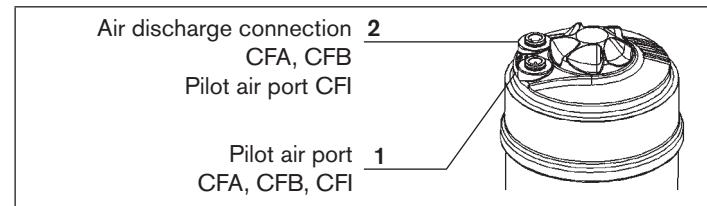

Fig. 6: Pneumatic connection
- Connect the control medium to the pilot air port 1 of the actuator (see "Fig. 6").
- Plug the silencer into the free air discharge connection 2 (see "Fig. 6").
- Connect the control medium to the pilot air port 1 and 2 of the actuator (see "Fig. 6")